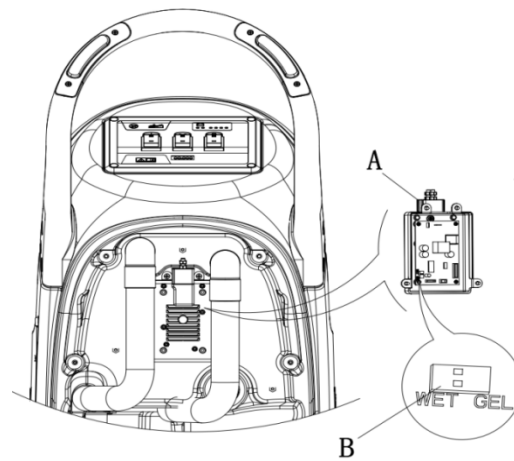

Figure 5
1. Make sure the connector (9) of the battery is disconnected. The factory setting is for GEL batteries. If the setting correspond to the battery installation, go to step 7 directly. Otherwise, follow next steps 2~5.
2. Take down the drain hose (15) from the clip.
3. Unscrew the screws on control box cover (5), battery cover (10) and PCB bracket (A, Figure 5), then turn over the PCBA to find the DIP switch (B, Figure 5) for setting battery type(WET or GEL).